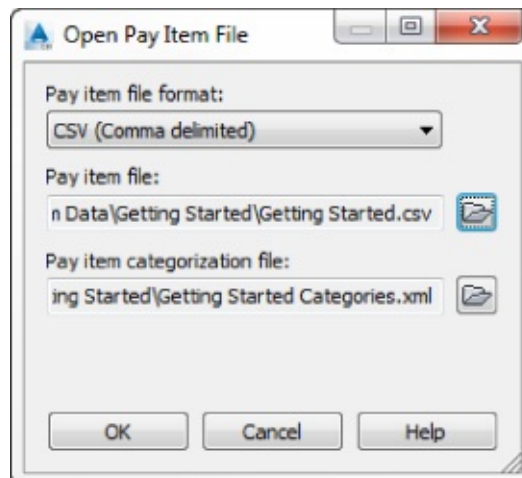

Figure 17.2 Open Pay Item File dialog
11. Your display should look similar to Figure 17.2.